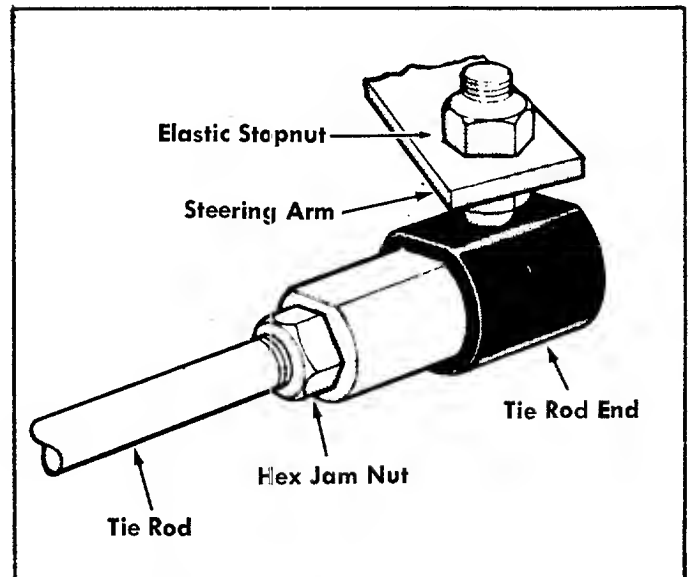

FIGURE 22. TIE ROD ADJUSTMENT
Step 1. Loosen the hex jam nut on one side. See figure 22.